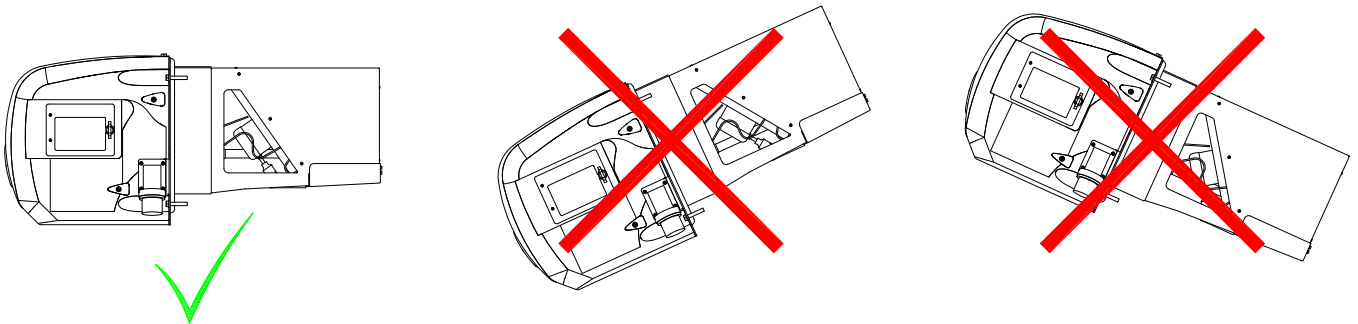

Fig. 4-2 Transport and storage
- The trailer refrigeration unit must be stored horizontally, see Fig. 4-2.